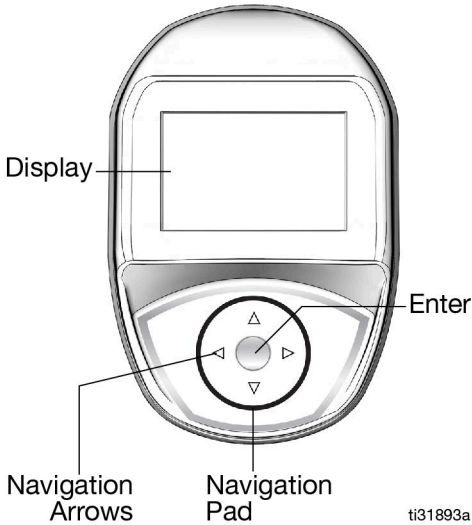

FIG. 1
The Navigation Pad (FIG. 1) includes four (4) navigation ARROWS (UP, DOWN, LEFT, RIGHT) and a center, ENTER button.